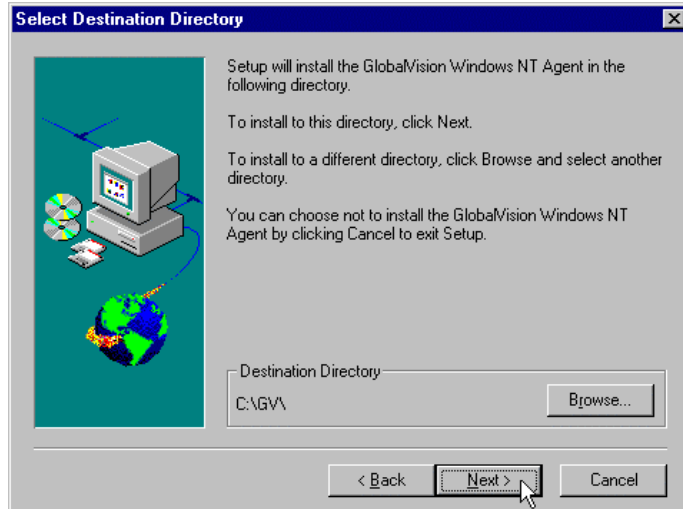

Figure 37 – Select Destination Directory dialog box
9. The **SELECT DESTINATION DIRECTORY** dialog box appears next. The destination directory is the directory where the Agent will be placed. The default directory is C:\GV\ . If another directory is desired, click on the **BROWSE...** button, which invokes a standard Windows browse dialog box. Click **NEXT** to continue installation. See Figure 37.